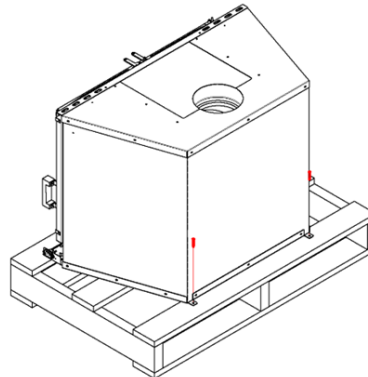

Figure 3-4: LUMIS Removal from Pallet
- Unfasten the back of the unit from the pallet (Figure 3-4).